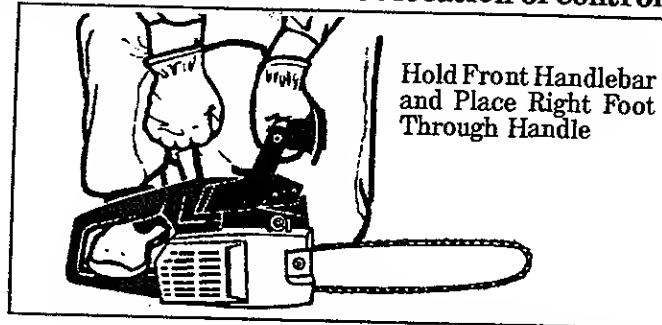

Figure 12
- a. Hold saw firmly on the ground as shown in Figure 12. Make sure the saw chain is free to turn without contacting any object.
- 3.) Pull the starter rope quickly with your right hand until the engine starts. Figure 12.
- 2.) Pull the starter rope quickly with your right hand until the engine starts. Figure 12.
- 4.) Pull the starter rope quickly with your right hand until the engine starts. Figure 12.